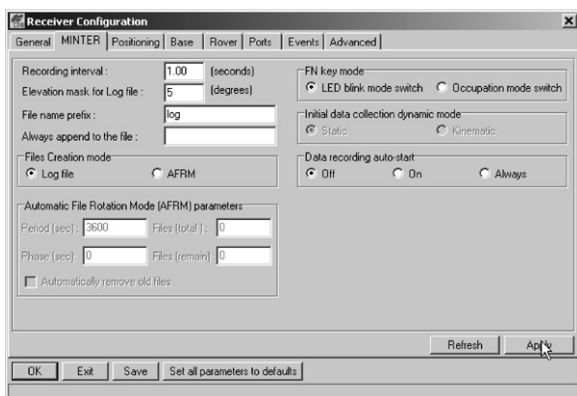

Figure 2-7. Receiver Configuration – MINTER Tab
3. Click the **MINTER** tab, configure the following settings, and click **Apply** (Figure 2-7):